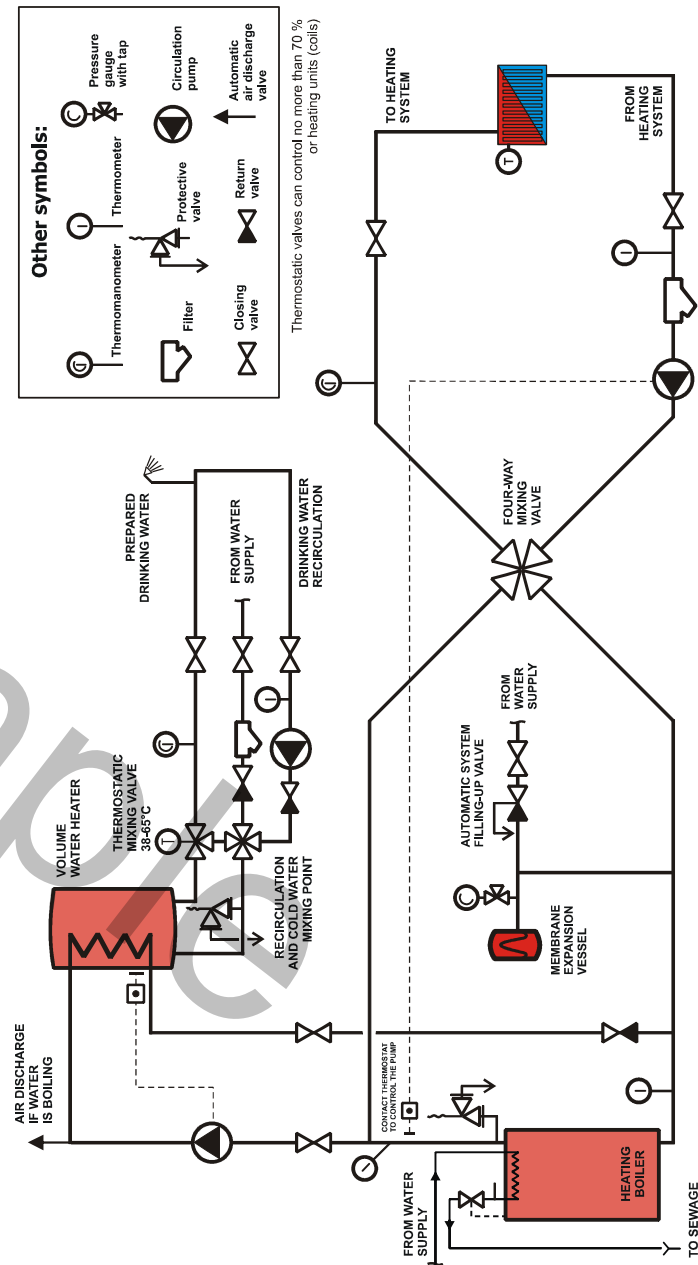

Fig. 4a
- In order to avoid condensate formation, which may reduce service life of the boiler significantly, install in the heating system 4-way or 3-way automatic mixing valves, (see recommended diagrams fig. 4a - 4d), in order to maintain no less than 60°C return water temperature;
Recommended boiler connection diagram options Fig. 4a – 4d
- It is recommended to install electric heating elements into the boiler in the case when the boiler is connected to heating system under diagram shown in fig. 4a;
Recommended cooling system connection is shown in the principal diagrams of the boilerhouse *fig. 4a, 4d*.